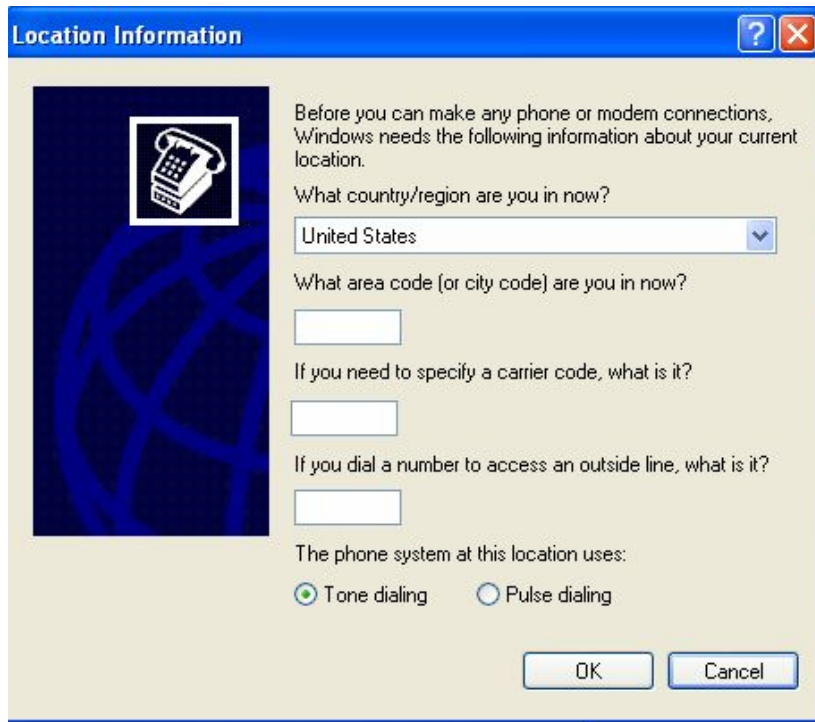

Fig1
1) Enter into start---all programs----accessories-----communications----hyper terminal. Click hyper terminal, fig 1 will pop up. Click cancel and select yes in the pop up dialog. then enter into fig 3.